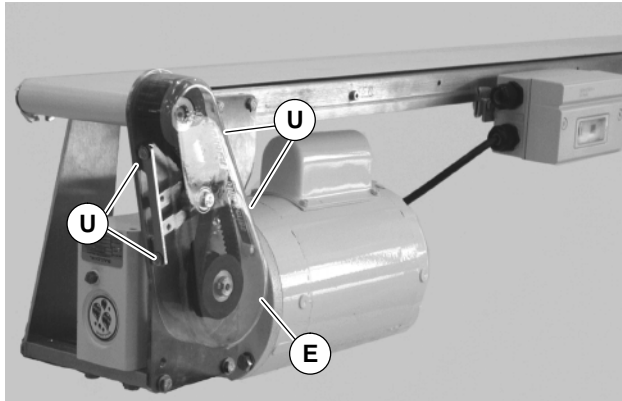

Figure 20
1. Remove four (4) screws (U of Figure 20) and remove cover (E).